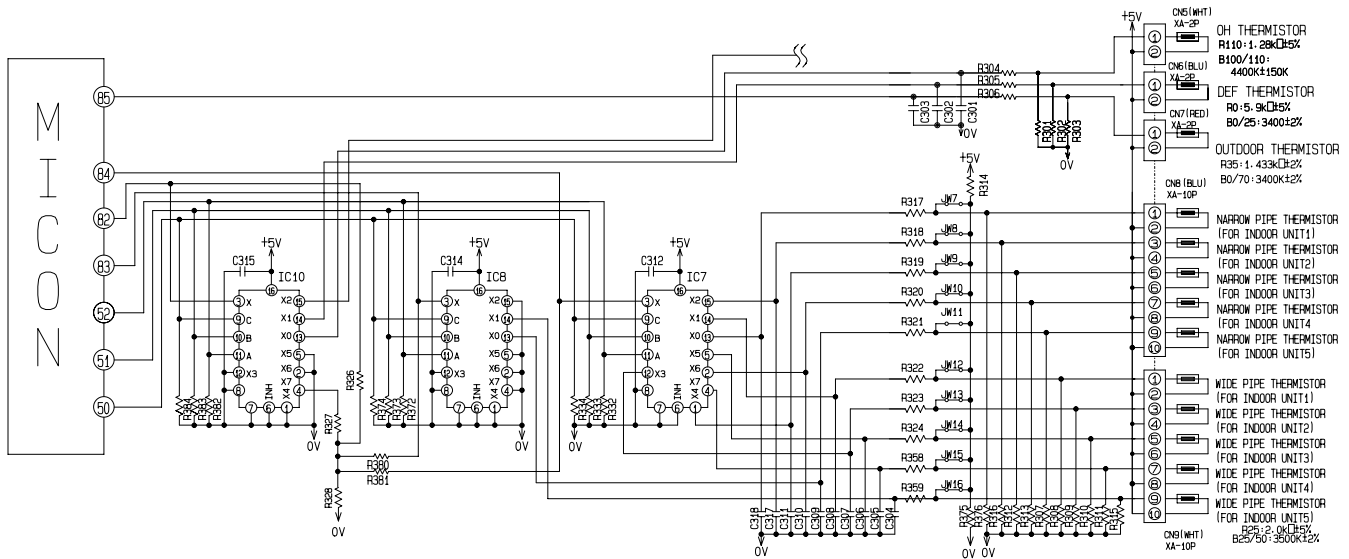

Fig. 8-1 Temperature Detection Circuit
- The circuit of the thermistors is shown as Fig. 8-1 for model RAM-90QH5 and their roles and temperature measuring points are shown as Table 8-1.